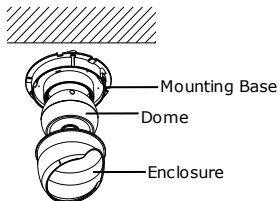

Figure 2-4 Assemble the Camera
5. Install the dome to the mounting base and then install the enclosure with the set screw as shown in Figure 2-4.